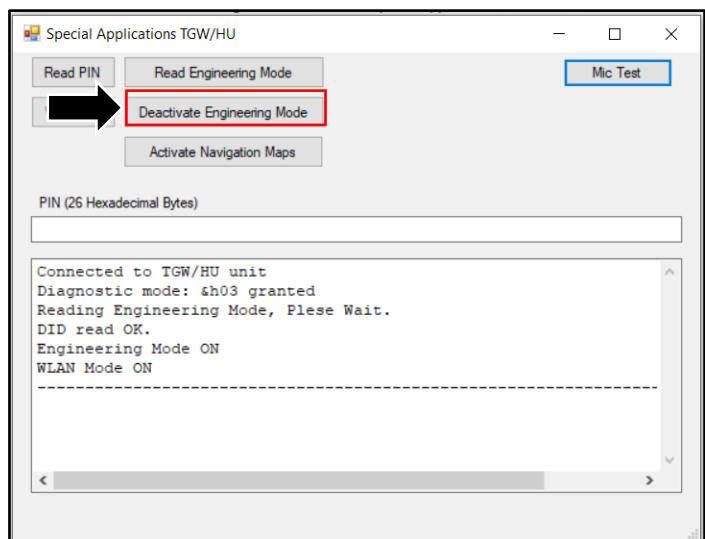

Figure 16
- 28. Select 'Deactivate Engineering Mode' (refer to Figure 16).